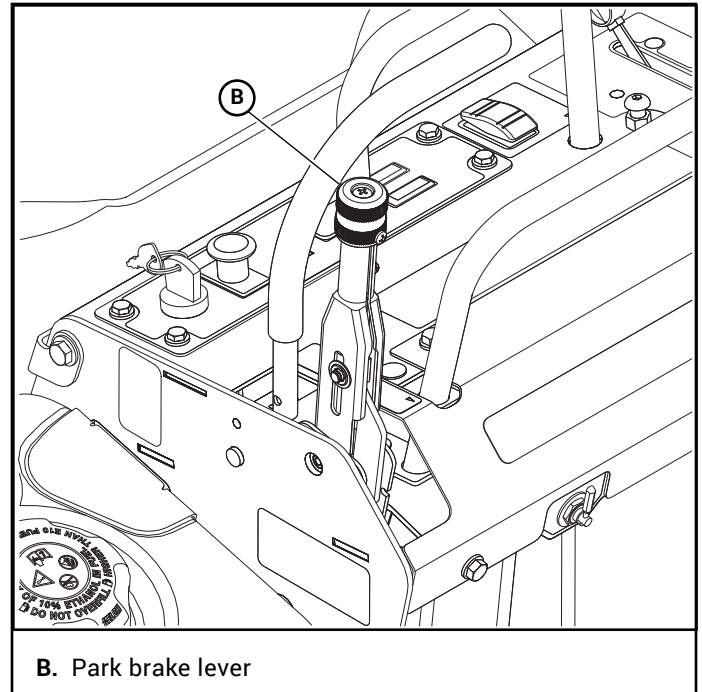

Figure 3-5
- B. **Park brake lever (Figure 3-5)** – Push this lever forward to release the brake. Pull the lever upright to engage the parking brake.